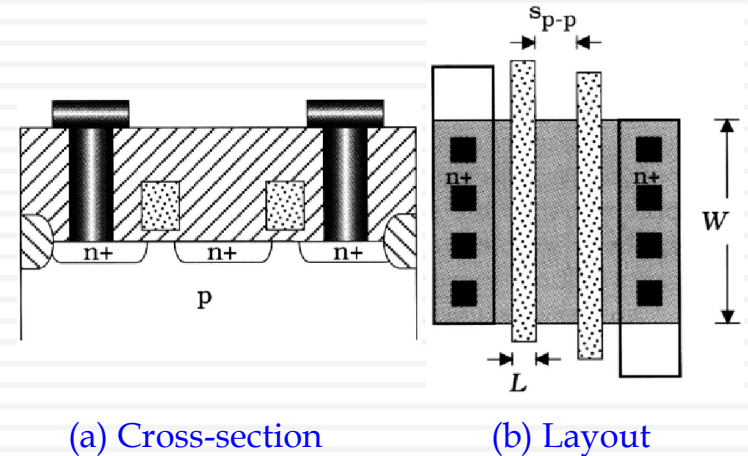

Figure 5.17 Series-connected FETs
- Example: A pair of series-connected FETs sharing the central n⁺ region as Figure 5.17